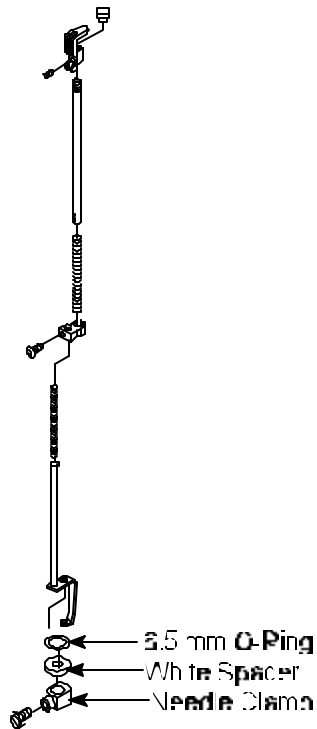

Figure 5
10. **Squeeze** and **hold** Needle Bar and Presser Foot together and **remove** needle clamp, white spacer and 6.5 mm O-ring. See *Figure 5*.